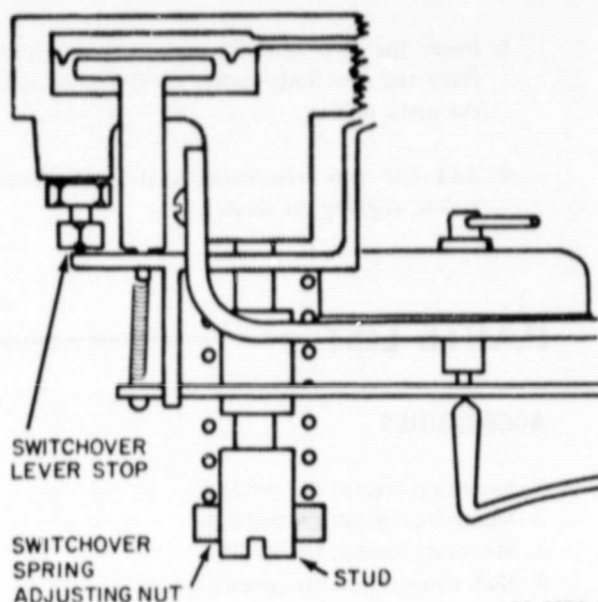

Fig. 1. Automatic Switchover Mechanism of the LP916B.
3. Adjust the switchover lever stop (see Fig. 1) to achieve 8 psi branch line pressure. For the B1058 model, branch line pressure should be 6 psi (41 kPa).